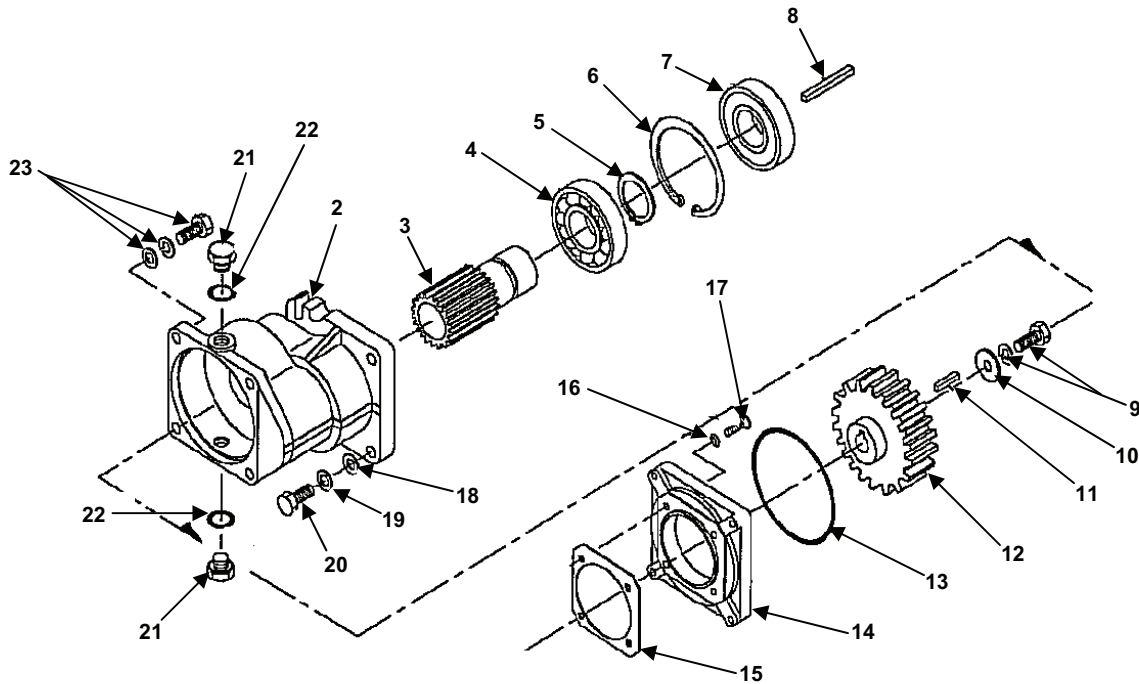

Figure 1. High-Pressure Pump Module Gearbox (Exploded View).
2. Remove items (Figure 1, item 9) through (Figure 1, item15). See (WP 0104).
3. Remove lower drain plug (Figure 1, item 21) with drain plug O-ring (Figure 1, item 22) from gearbox housing (Figure 1, item 2).
1. Completely drain the oil from the gearbox crankcase into a suitable container. See Figure 1.
2. Place gearbox (Figure 1, item 1) on work surface with pinion oil seal (Figure 1, item 7) facing up.
3. Remove pinion oil seal (Figure 1, item 7).
4. Remove outer retaining ring (Figure 1, item 6) in groove below pinion oil seal (Figure 1, item 7).
5. Remove pinion gear (Figure 1, item 3). Place gearbox on housing (Figure 1, item 2) flange. Press ball bearing (Figure 1, item 4) out from inside gearbox housing (Figure 1, item 2).
6. Remove ball bearing (Figure 1, item 4) from pinion gear (Figure 1, item 3).
7. Remove inner retaining ring (Figure 1, item 5).
8. Set pinion gear (Figure 1, item 3), ball bearing (Figure 1, item 4), and inner retaining ring (Figure 1, item 5) aside for reassembly.
9. Remove retaining screw with lock washer (Figure 1, item 9) and flat retaining washer (Figure 1, item 10) from spur gear (Figure 1, item 12).
1. Align the four holes and mount gasket (Figure 1, item 15) on outside of bearing cover flange (Figure 1, item 14).
2. Replace O-ring (Figure 1, item 13) in outer groove of bearing cover flange (Figure 1, item 14).
3. Install bearing cover flange (Figure 1, item 14) onto plunger pump flush with pump crankcase.
4. Install four socket Allen head screws (Figure 1, item 17) and toothed washers (Figure 1, item 16).